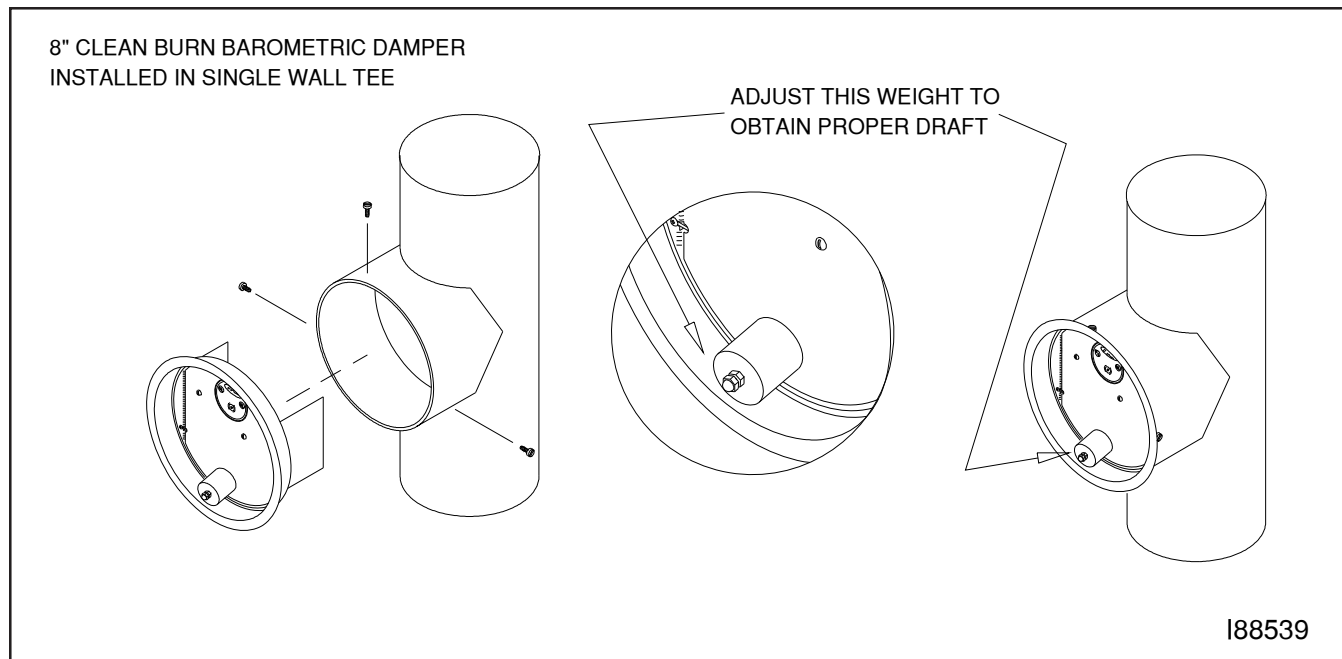

Figure 4K - Installation of Barometric Damper
1. Refer to Figure 4K. Install a single wall tee (min. 24 gauge) on the first straight vertical or horizontal stack section within one to three feet of the furnace breach.